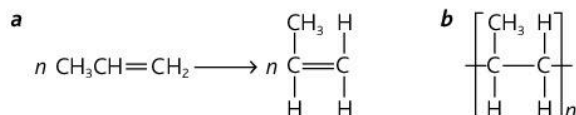

Figure 6.3.1 Drawing polypropene; **a** Rearranging the chain; **b** The polymer
- Rearrange the structure if necessary to make the atoms stick out vertically from the $\text{C} = \text{C}$ bond (see Figure 6.3.1).